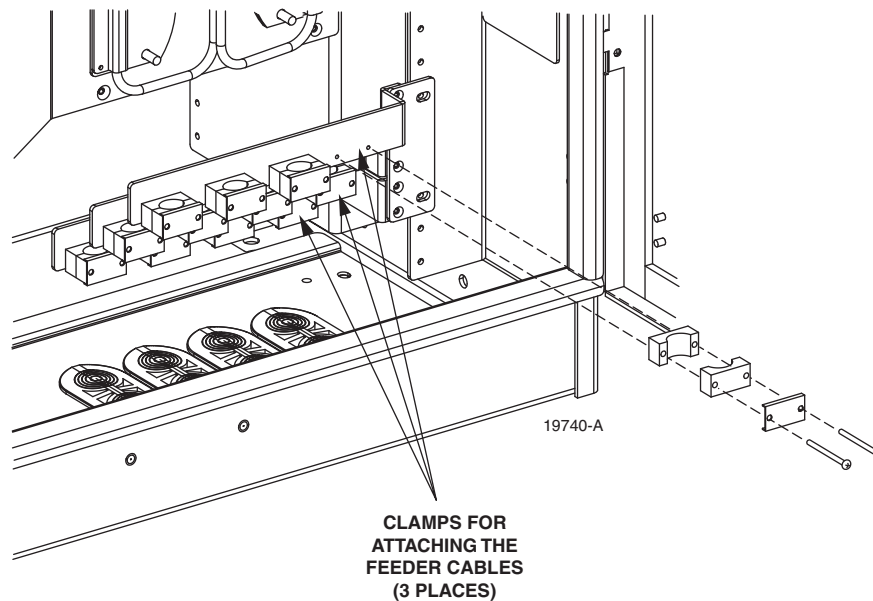

Figure 14. Feeder Cable Clamping Positions
4. Three cable clamping positions are provided for securing feeder cables as shown in Figure 14. Select one of the clamping positions as the attachment point for the cable.